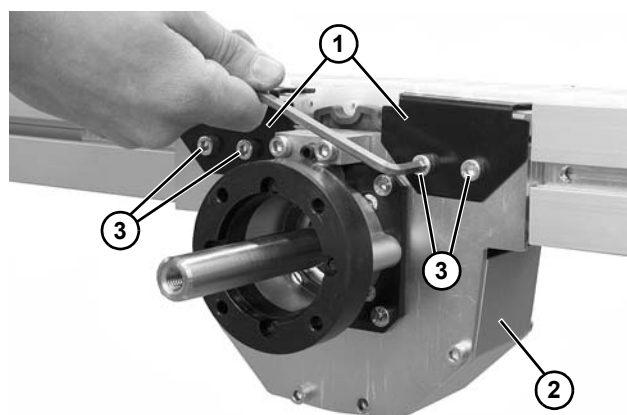

Figure 69
7. Install belt hold down tabs (**Figure 69, item 1**) to drive assembly (**Figure 69, item 2**) using four socket head screws (**Figure 69, item 3**).